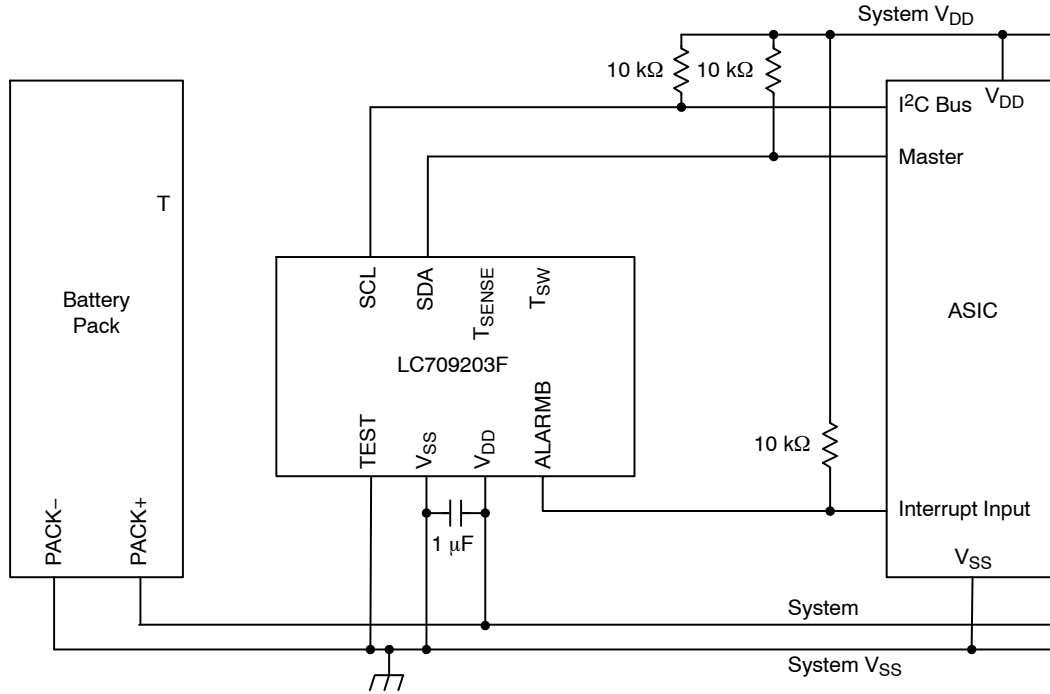

Figure 1. Example of an Application Schematic using LC709203F
1. T_{SW} and T_{SENSE} must be disconnected as Figure 1 when not in use.